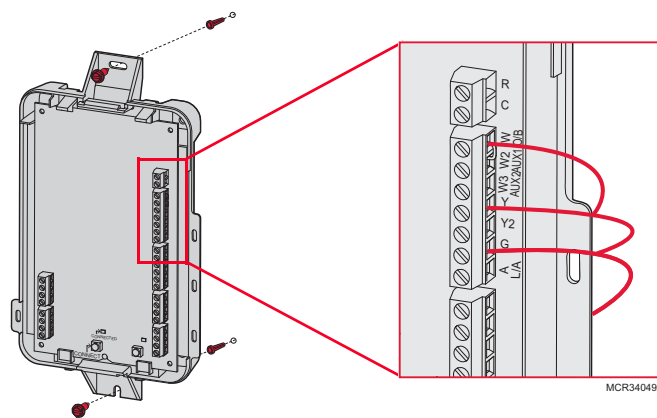

Fig. 7.
2. To wire the EIM, strip 1/4" insulation, then insert wires (see Fig. 7). For wiring diagrams, see “Wiring” beginning on page 121.